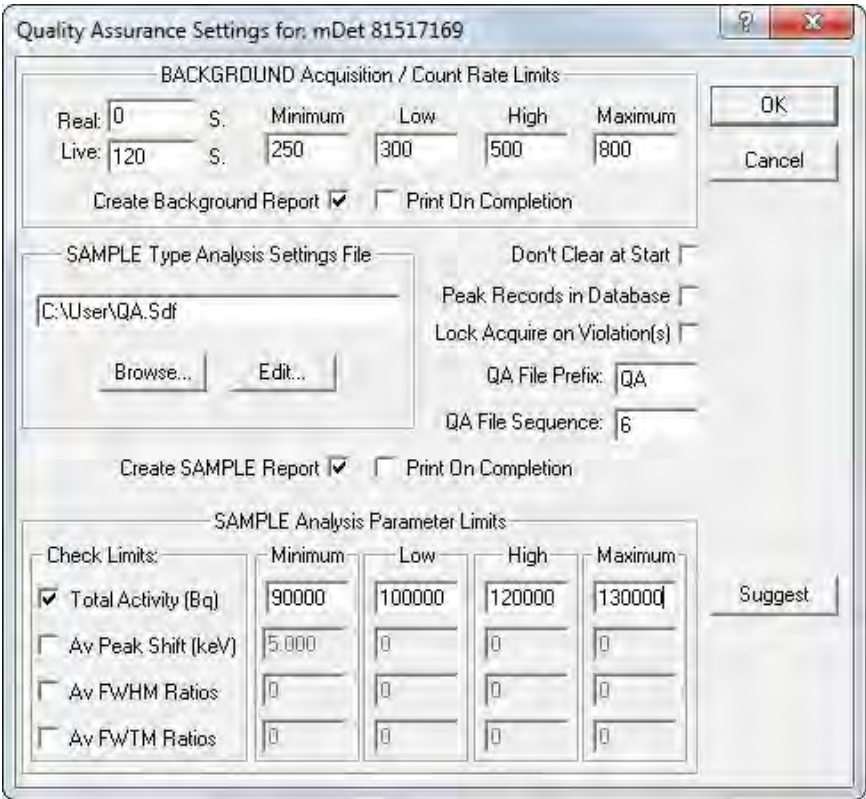
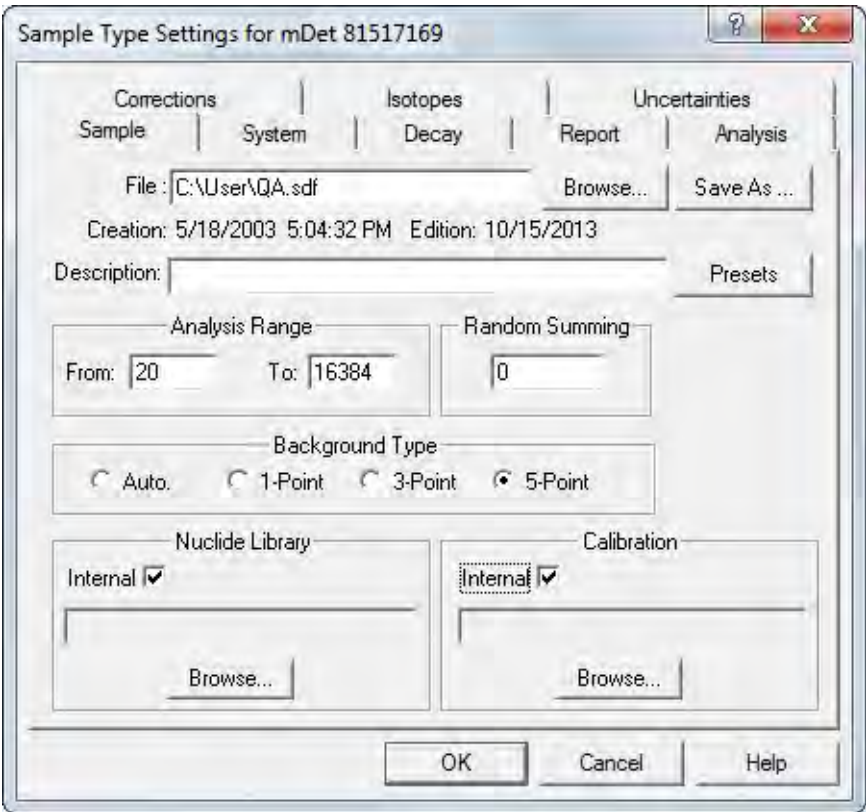

Figure 299. Example of Quality Assurance Settings.
Figure 300. Typical Settings for Quality Assurance Analysis.
- 4) Select **Acquire/QA/Settings...** to display the Quality Assurance Settings dialog for this detector (Fig. 299), then go to the **SAMPLE Type Analysis Settings File** section and click the **Edit** button. This will open the Analysis Options dialog (Fig. 300), which will allow us to create a sample defaults (.SDF) file for analyzing the QA acquisitions for this detector.
- 8) The expected value of the activity of the sample is 1.1E+5 Bq (3.0 μ Ci). Scale this up and down by 10% for **Low/High** and 20% for **Minimum/Maximum** into activity fields. These values are shown in the **SAMPLE Analysis Parameter Limits** section in Fig. 299.
- 12) The background and sample spectra will automatically be stored according to the **QA File Prefix** and **QA File Sequence** number entered in Fig. 299.